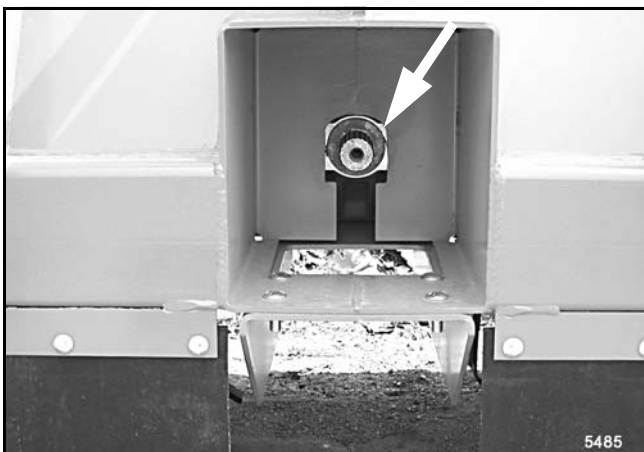

Figure 43. Gearbox Input Shaft
- Install PTO driveline by sliding the yoke with the slip clutch over the input shaft (Figure 43).